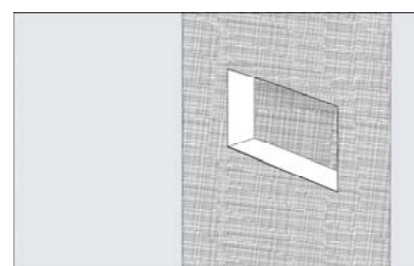

Fig. 6.
STEP 7: Apply the removed portion of the Membrane to the back face of the Niche. Press firmly to ensure total adhesion. (Fig 6).